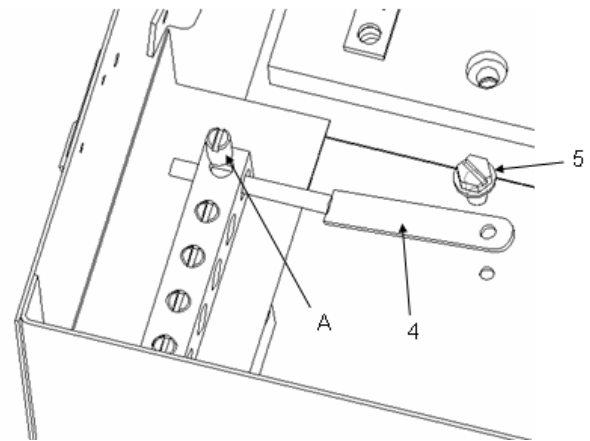

Fig. 2
2. Remove item A neutral screw qty 1 & retain it. Ref. Fig 2.
3. Insert item 4 (Bond strap) in neutral assembly as shown in Fig 2 & install it using item 5 screw.